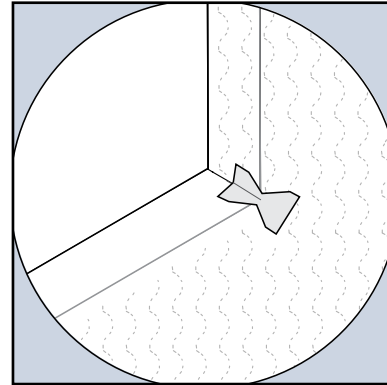
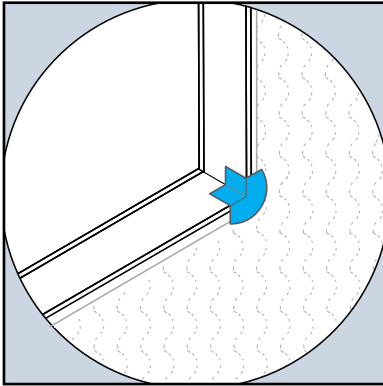

Fig. 21
Fig. 23
- C. To properly flash the sill, cut and install corner patch flashing (Fig. 21, 22) or use Typar Flex Flashings (Fig. 23, 24).